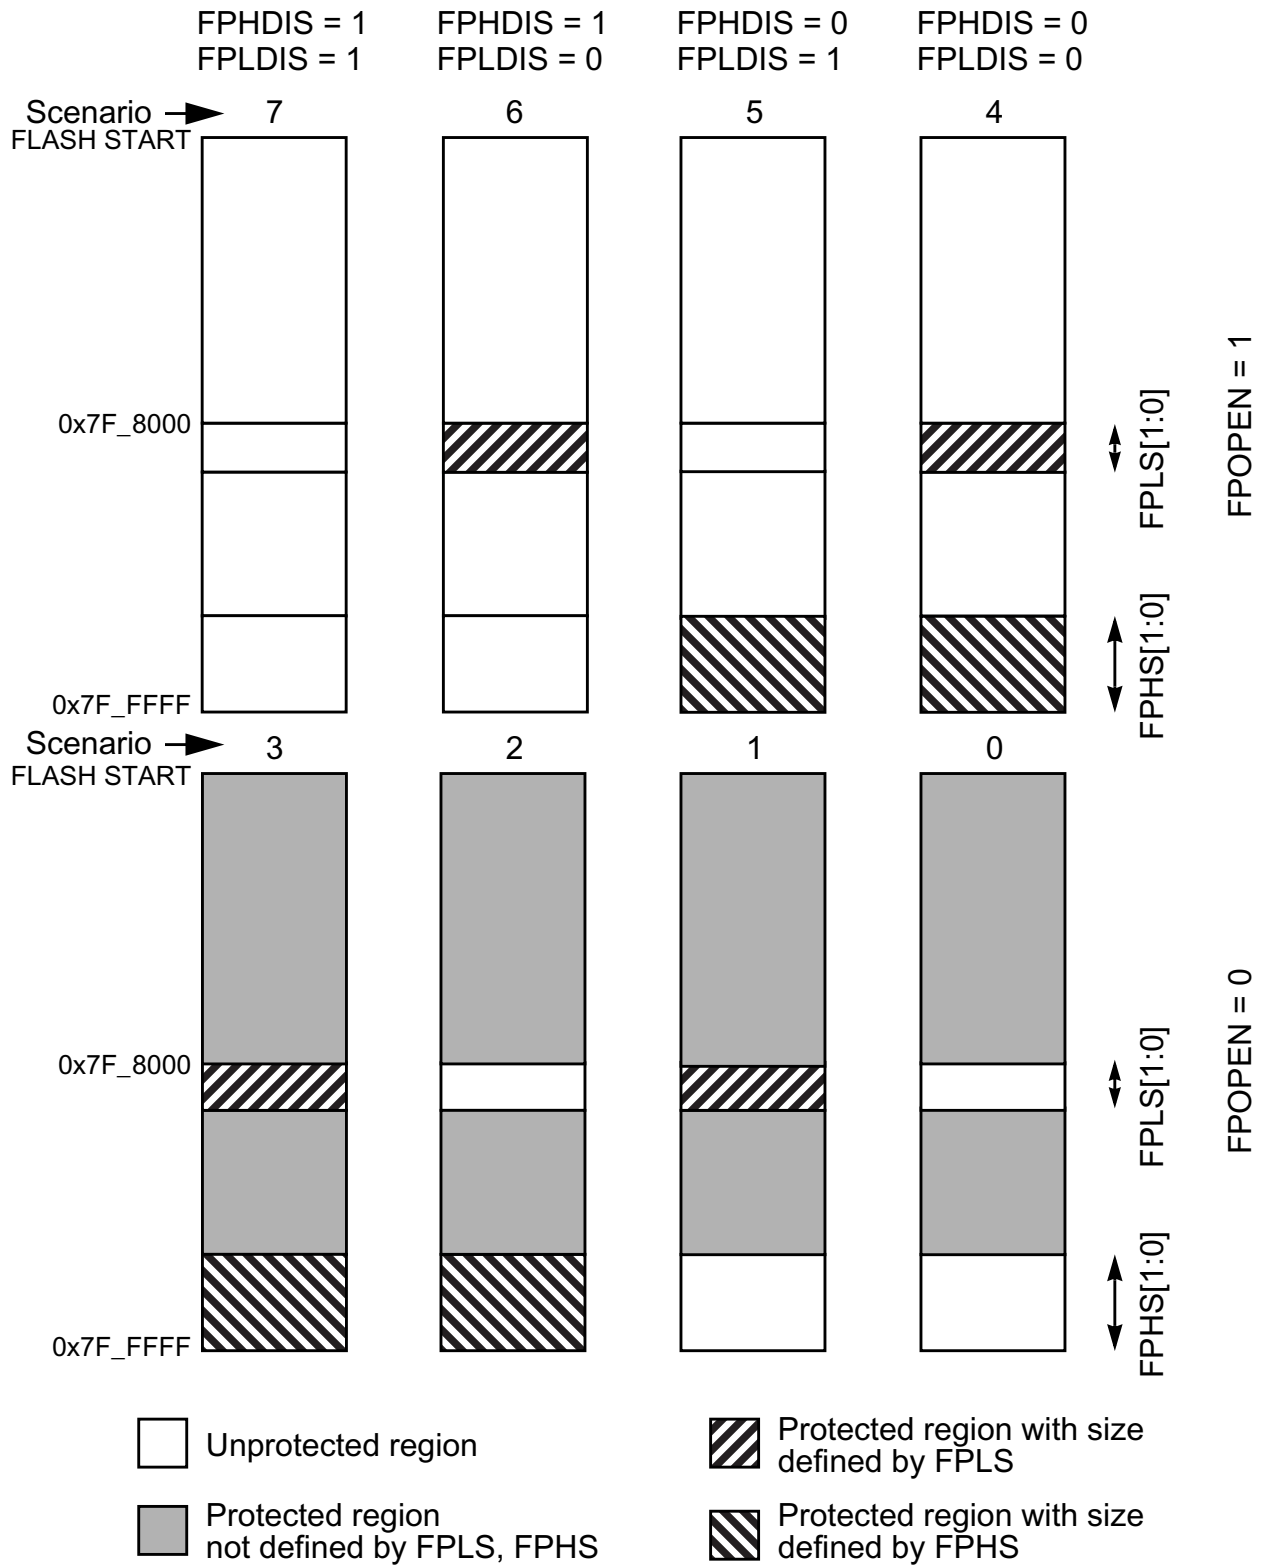

Figure 8-14. P-Flash Protection Scenarios
All possible P-Flash protection scenarios are shown in Figure 8-14. Although the protection scheme is loaded from the Flash memory at global address 0x7F\_FF0C during the reset sequence, it can be changed by the user. The P-Flash protection scheme can be used by applications requiring reprogramming in single chip mode while providing as much protection as possible if reprogramming is not required.
1. Allowed transitions marked with X, see Figure 8-14 for a definition of the scenarios.